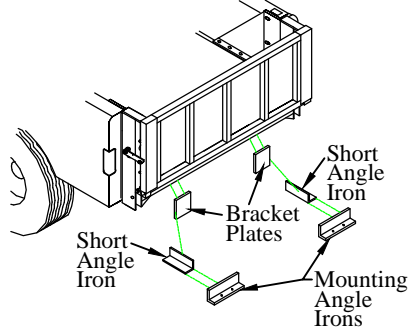

Figure 21: Lower bracket support.
2. **Bolt** the bracket plates to the truck frame (Figure 21).